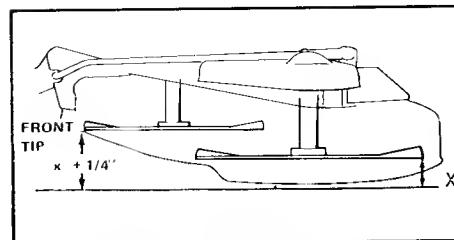

Figure 42. Levelling Mower - 42"
4. Measure the distance from the front tip of the center blade to the ground, and note that measurement. (See figure 42.)
5. Measure the distance to the ground from the rear tips of the left and right blades. Compare these measurements with the measurement from the front tip of the center blade. The front tip of the center blade should be $1/4$ inch (6 mm) higher than the rear tips of the side blades (figure 42).